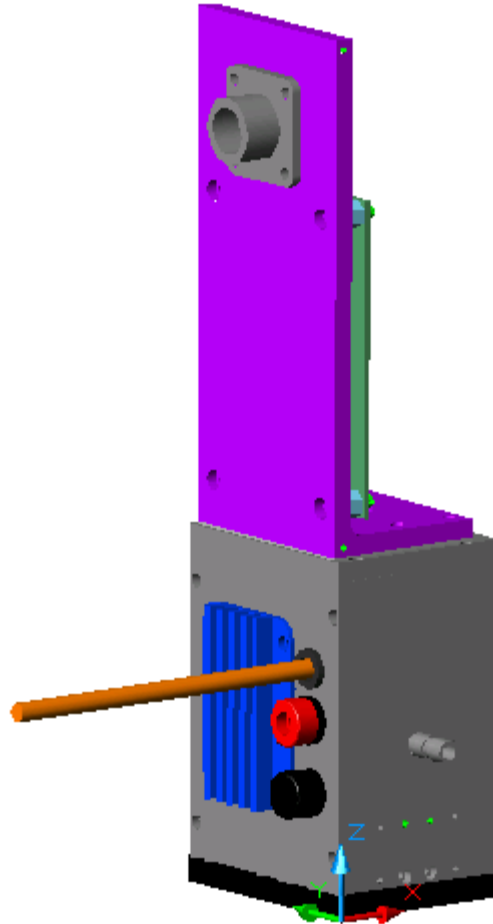

Figure 43. Nine pin plug attached to I. A. bracket.
**STEP 23:** Attach the black plastic 9-pin AMP CPC connector (Digikey A1372-ND) to the I. A. bracket with four #4-40 X 3/8" screws (see figure 43).